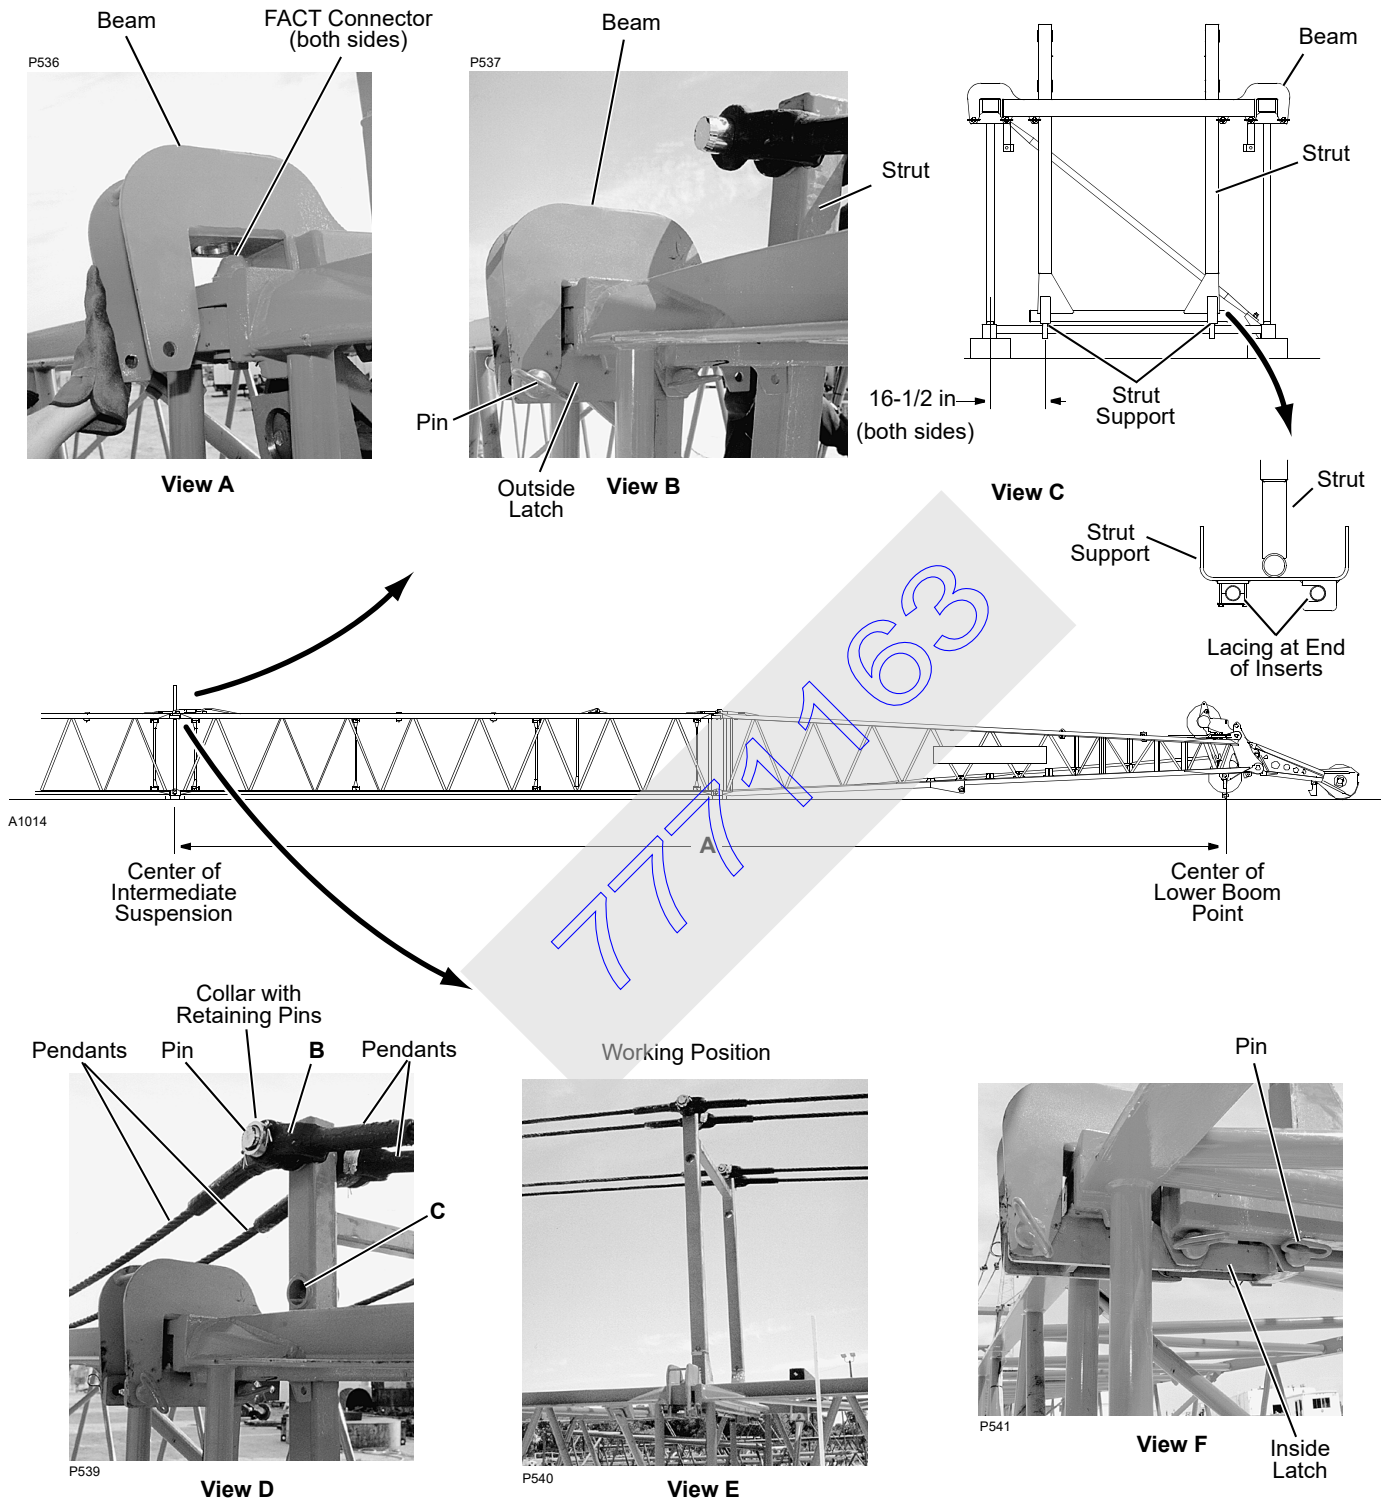

FIGURE 4-29
See Figure 4-29 for following procedure.
1. Determine correct positioning of intermediate suspension on boom insert. See Table 4-3 and Figure 4-29 for positioning.
5. If equipped with intermediate suspension, attach pendants at holes in position B or C on strut (see Table 4-3 and Figure 4-29, View D):
Disconnect boom pendants from each other (Figure 4-28, View B) and, if equipped, from intermediate suspension strut (Figure 4-29, View D). Lay pendants on top of boom.
1. Using assist crane, lift strut until it is fully extended (Figure 4-29, View E).
2. Remove pins and disengage outside latches on suspension beam (Figure 4-29, View B).
4. Remove strut supports (Figure 4-29, View C).